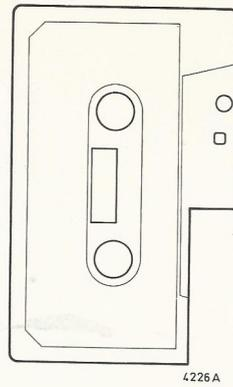

Fig. 2
1. Adjusting the playback head 66 (Fig. 2 + 3)
- Open a cassette, remove the tape, the spring with felt, etc. and re-assemble the cassette halves. Remove a part of the cassette (Fig. 2).